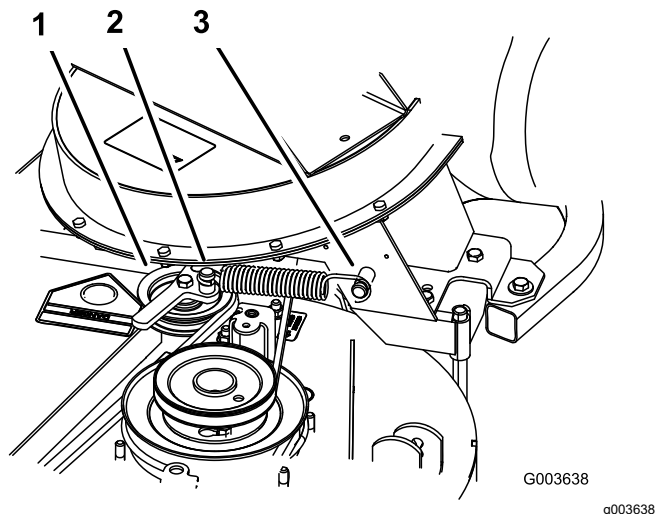

Figure 34
6. Install the spring as shown in Figure 34.